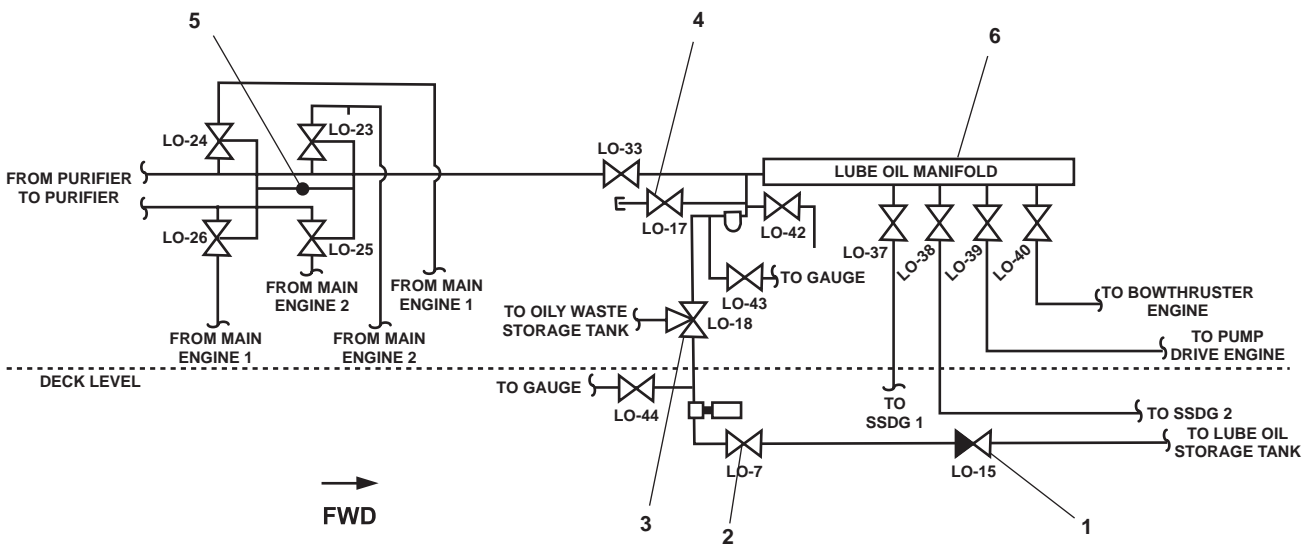

Figure 2. Lube Oil Manifold and Circuit Valve Location
- b. In the engine room, on the port side, below deck level, OPEN Lo-15, LUBO STOR. TK. OUT (figure 2, item 1).
- c. In the engine room, on the port side, below deck level, OPEN Lo-7, C.O.V. - LUBO XFER PMP. SUCT. (figure 2, item 2).
- d. Line up Lo-18, LUBO SPLY. (figure 2, item 3) to send lube oil to the lube oil manifold (figure 2, item 4).
- e. Verify that Lo-17, BKT. FILL CONN is CLOSED (figure 2, item 5).
- a. In the engine room, on the port side, below deck level, Lo-15, LUBO STOR. TK. OUT (figure 2, item 1).
- b. In the engine room, on the port side, below deck level, Lo-7, C.O.V. - LUBO XFER PMP. SUCT. (figure 2, item 2).
- c. All valves on the lube oil manifold, located in the engine room on the port side (figure 2, item 4).